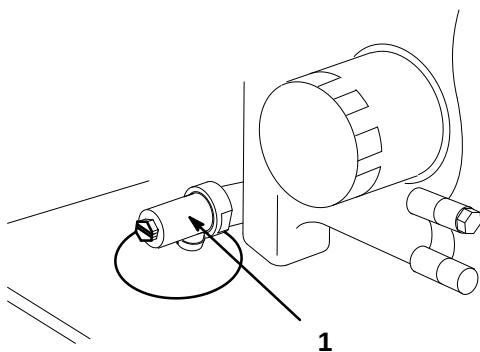

Figure 28
3. Place a pan below the oil drain. Use either a flat screw driver, 3/8" wrench or 10mm wrench to open valve (Fig. 28).
4. Rotate valve end clockwise to close valve. Rotate valve end counterclockwise to open valve (Fig. 28).
5. When oil has drained completely, close the drain valve (Fig. 28).